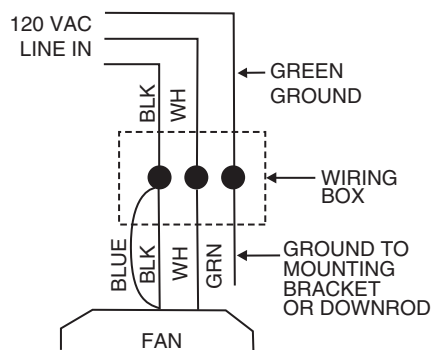

FIGURE 10
1. Connect the fan supply (black) wire and light supply (blue) wire to the black household supply wire as shown in Figure 10.